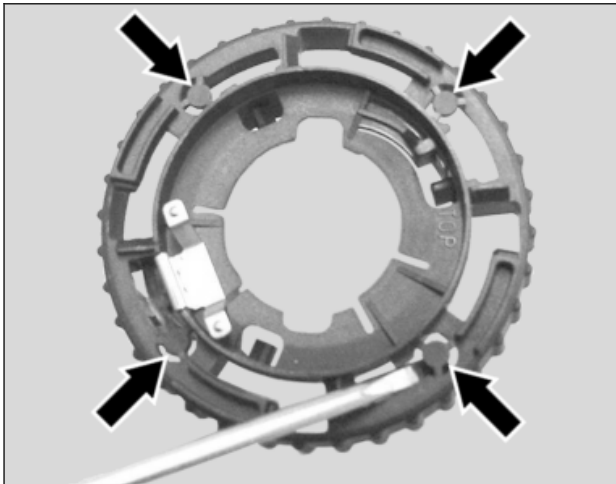

Figure 6
- 7.12 Remove the tabs from the 4 holes of the lamp retaining collar A230 826 00 89 (Figure 6, arrows).